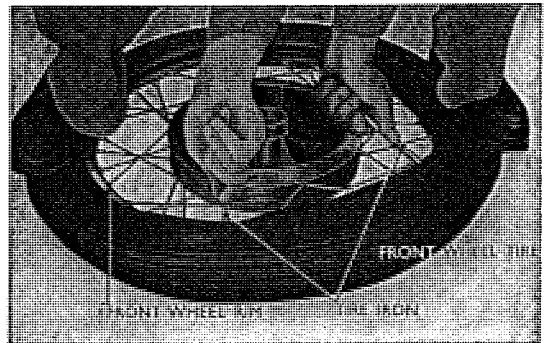

Fig. 4.74 Installing tire
1. The tube can be easily inserted by putting it inside the tire and applying a small amount of air. Insert into the bead unit in the rim. (Refer to Fig. 4.74)